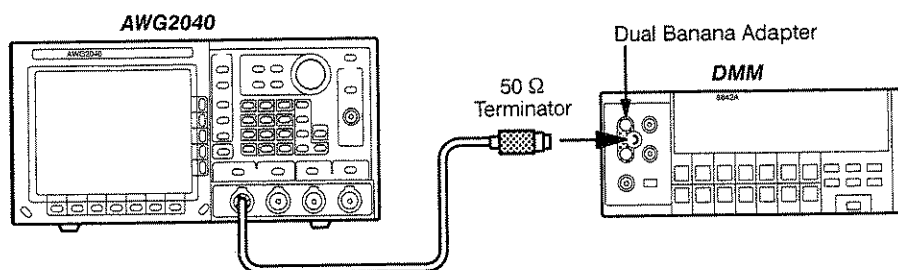

Figure E-13: Amplitude Accuracy Initial Test Hookup
- a. Hook up DMM: Connect the AWG2040 CH1 output through a 50 Ω coaxial cable, a 50 Ω precision terminator, and an adapter (BNC-to-dual banana) to the DMM INPUT connector (see Figure E-13).